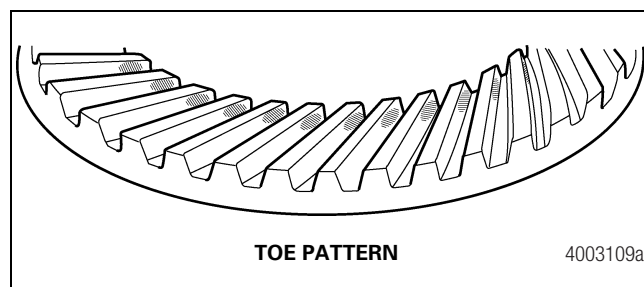

Figure 4.28
- **If the contact is too much toward the toe or small inside end of the gear:** Increase the gear backlash. Make the differential bearing shim thinner to move the gear away from the pinion. Figure 4.28.